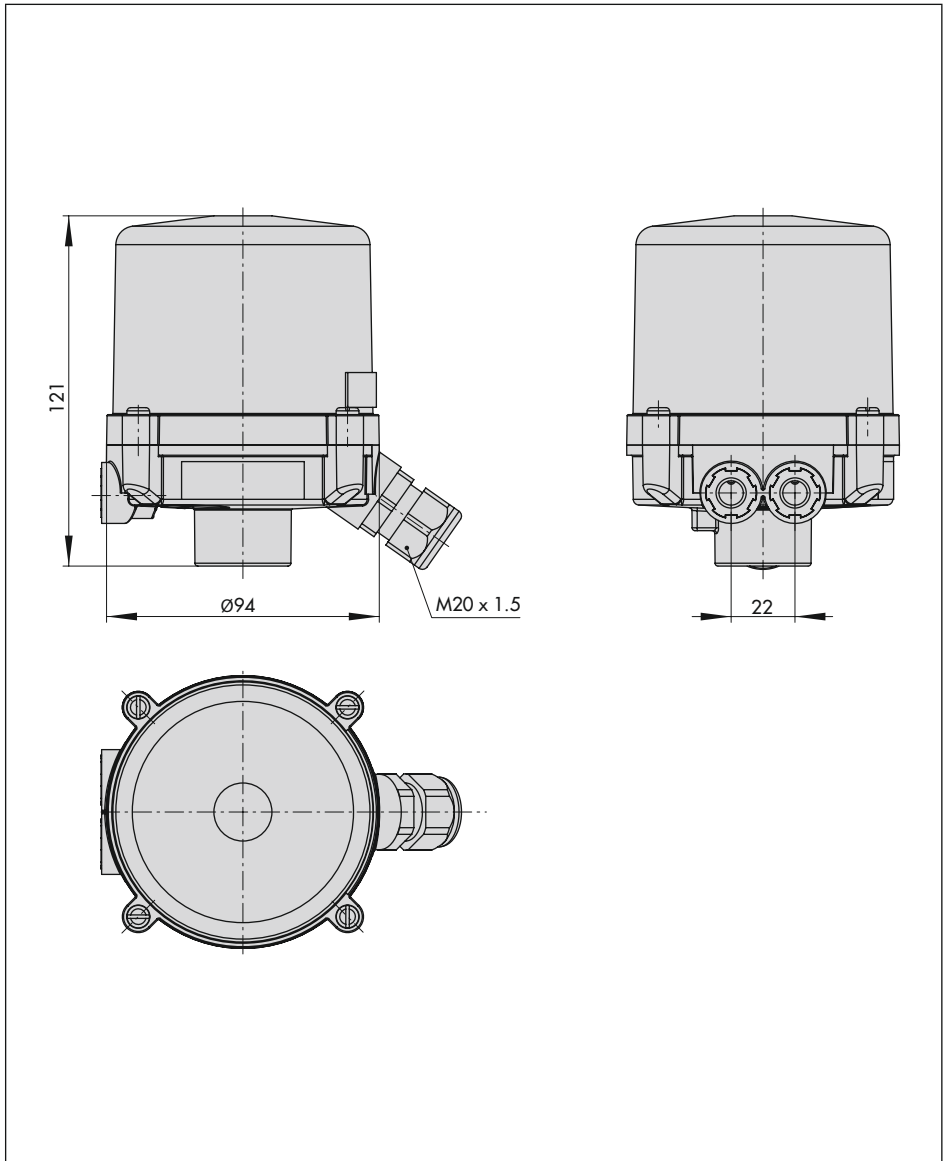

Fig. 1: Type 4740 Limit Switch with optional solenoid valve on a Type 3353 Angle Seat Valve
- Type 3353 Angle Seat Valve (see Fig. 1)